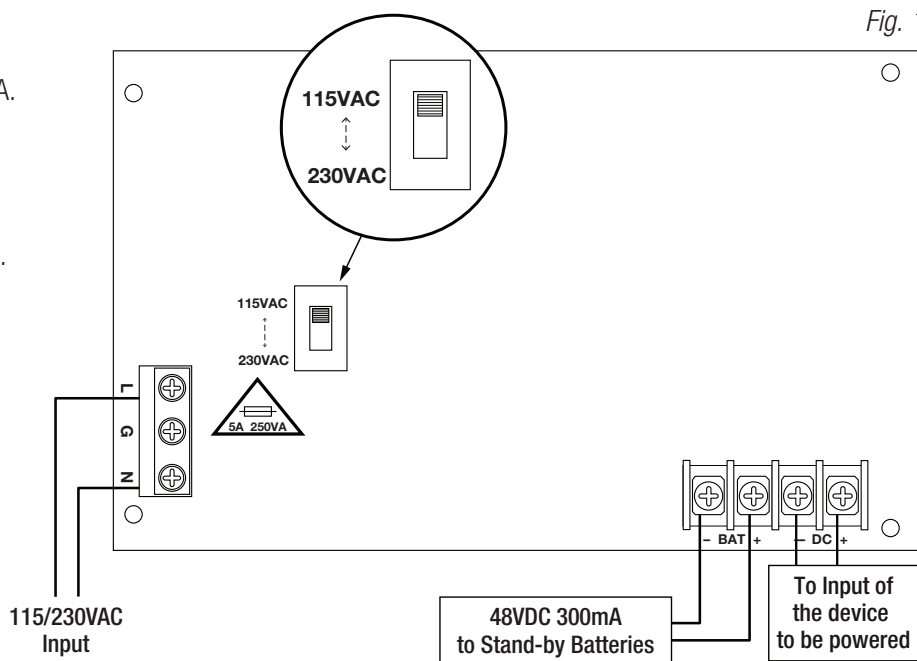

Fig. 1
2. Set PoE201 to the proper AC input voltage via input voltage switch (Fig. 1).
3. Connect AC power from overcurrent protective device circuit breaker (20A @ 115VAC, 60Hz, 16A @ 230VAC, 50/60Hz) to the terminals marked [L, N] on power supply board (Fig. 1). Use 14AWG or larger for all power connections (Battery, DC output, AC input).
Connect four (4) 12VDC batteries wired in series to terminals marked [- BAT +] (Fig. 1), carefully observing polarity (battery leads are included).